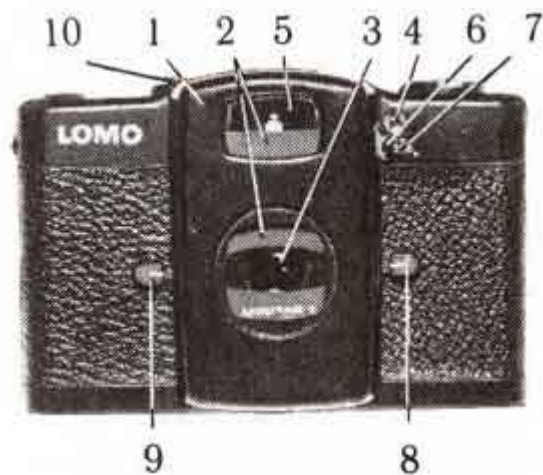
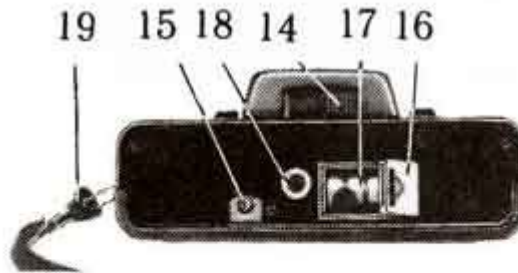
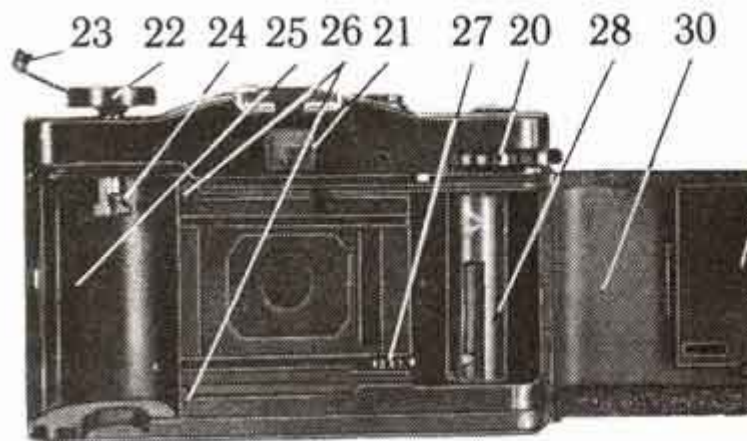
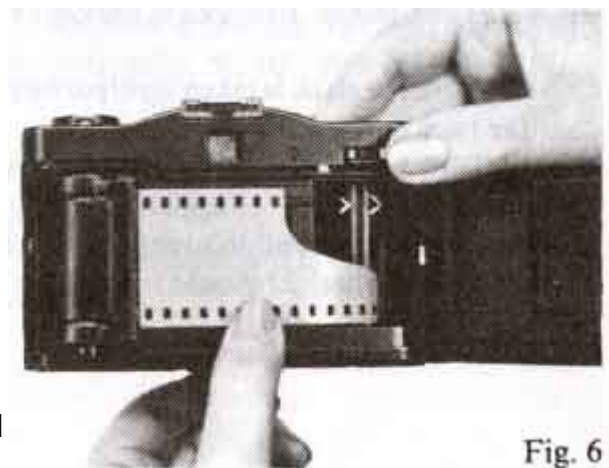

Fig. 2
Fig. 4
Fig. 5
Fig. 6
To install the power source into the camera, move cover 16 (Fig. 4) in a direction pointed with the arrow. Put the cells into the container so that sign "+" on the cells is looking towards sign "+" on the camera container. Meanwhile the flexible tape serving for removing the power source must be under the power source and its end must jut out.
viewfinder. Looking through the inspection window 21 (Fig. 5) of the viewfinder press down the release knob 10 (Fig.2) until it is stopped slightly.
To insert the cassette with film into the camera, swing out knob 23 (Fig.5) of handwheel 22 and pulling it upward until stop, open the camera back 30. Insert the cassette into receptacle 25 so that a film leader is facing to the right. Lower handwheel 22 so that yoke 24 enters the cassette spool plug.
Put the film leader (Fig.6) into the slot of the take-out spool so that film perforation engages into mesh with a tooth of take-up spool 28 (Fig.5). Holding the cassette with film by your hand and rotating handwheel 20 with the other hand, take up film slack. Make sure the film is positioned between limiters 26 that it is engaged with gear 27 and is fixed reliably at take-up spool 28.
If handwheel 20 has turned up to stop while the film slack has not yet taken up, press down release knob 10 (Fig.2) and continue taking up the slack.
**ATTENTION!** If the objective and viewfinder are covered with the guard curtains, release knob 10 is interlocked. To unlock it, use key 14 (Fig.4) to open protective curtains of the taking objective.
After the slack is taken up close camera back 30 (Fig.5) and press it slightly to the body so that the back is fixed.
Turn handwheel 20 against the stop and press the release knob. Repeat this procedure twice or thrice till digit "1" appears in the frame counter window against the index. While pulling the film, pay your attention to rewind handwheel 22 (Fig.5). If the camera is loaded with the film correctly, handwheel 22 should rotate also on rotation of handwheel 20.
After installing the cassette with film into the camera, it is required to introduce into the exposure meter a value of light sensitivity of film applied (the value given on the package). For this aim rotate film light sensitivity setting knob 6 (Fig.2) till a value required appears in window 7. Loading the camera with a new film, it is required to introduce a new value of light sensitivity.
To focus by distance scale, estimate camera-to-object distance and bring key 8 (Fig. 2) to the corresponding position with respect to the distance scale.
Draw apart curtains 2 (Fig.2) covering objective 3 and viewfinder 5.
Check up for serviceability of the power source slightly pressing down release knob 10 (Fig.2) and watching the indicator in viewfinder inspection window 21.
Put key 9 (Fig.2) against the calculated diaphragm value and bring key 8 to a corresponding position with respect to distance scale. The camera is prepared for photography.
Cocking of the shutter and advance of the film are effected in the camera simultaneously, with complete revolution of handwheel 20 (Fig. 5). Sometimes however, the complete revolution of handwheel 20 is impossible because the film end is lacking for a full frame. Do not force the handwheel in this case, otherwise the film can break loose from the spool core.
To rewind the film to the cassette, press the film advance gear disengagement knob 15 (Fig.4). Hinge away knob 23 (Fig.5) and turn it in the direction pointed with the arrow. Rewind over, you will feel a slight jerk of the film and an easier run of handwheel 22.